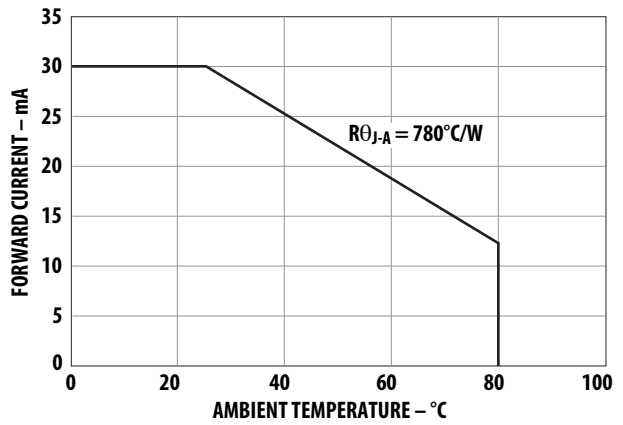

Figure 4. Maximum forward current vs. ambient temperature based on $T_{jmax} = 115^{\circ}\text{C}$
1. Derate linearly as shown in Figure 4.